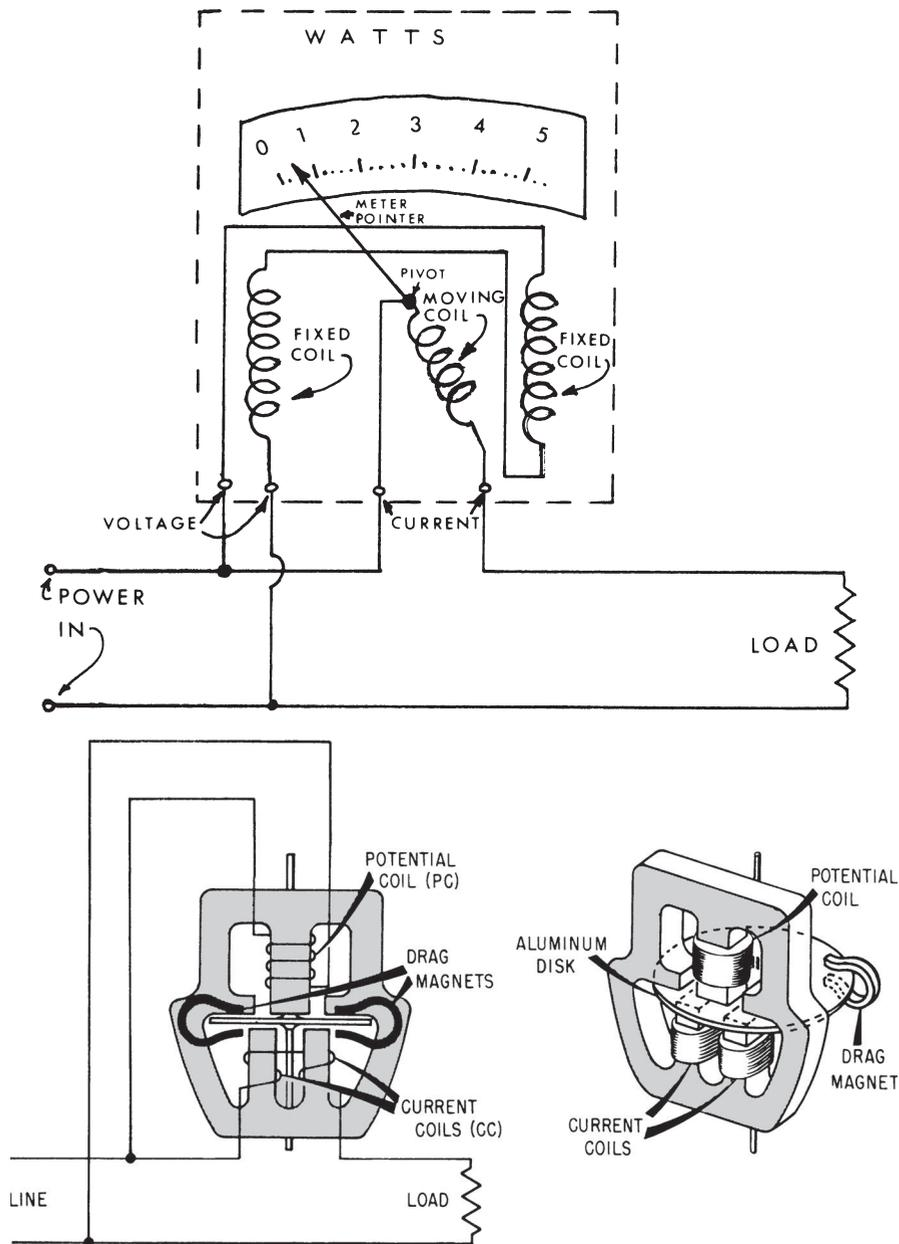

Fig. I-27 (A) Wattmeter hookup; (B) kilowatt-hour meter.
- Wattmeter.** A wattmeter measures electrical power. Electrical power is figured by multiplying the voltage times the current. A wattmeter has two electromagnetic coils (a coil with many turns of fine wire for voltage and a coil with a few turns of heavy wire for current). The voltage coil is connected across the incoming line, and the current coil is connected in series with one of the incoming wires. The two coils are stationary and in series with a moving coil. The strength of the magnetic fields determines how much the moving coil is deflected. The deflection of the needle is read on a scale calibrated in watts. In this way, the wattmeter measures the power consumed in 1 s (Fig. I-27).